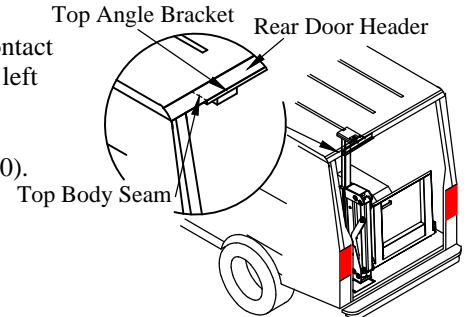

Figure 9: Liftgate in rear opening.
3. **Position** the liftgate in the rear opening such that the top angle bracket comes in contact with the rear door header (Figure 9). The angle bracket butts up against the top left body seam on the rear door header.